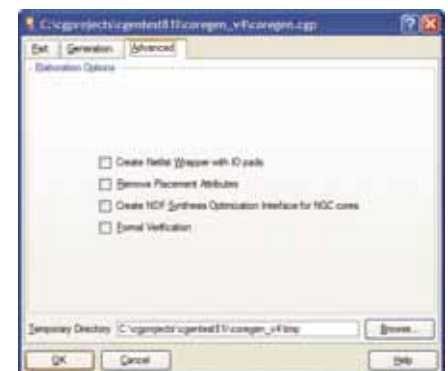

Figure 5 – Xilinx CoreGen netlist for equivalency checking
- Use CoreGen to instantiate large block RAMs in the RTL (Figure 5)